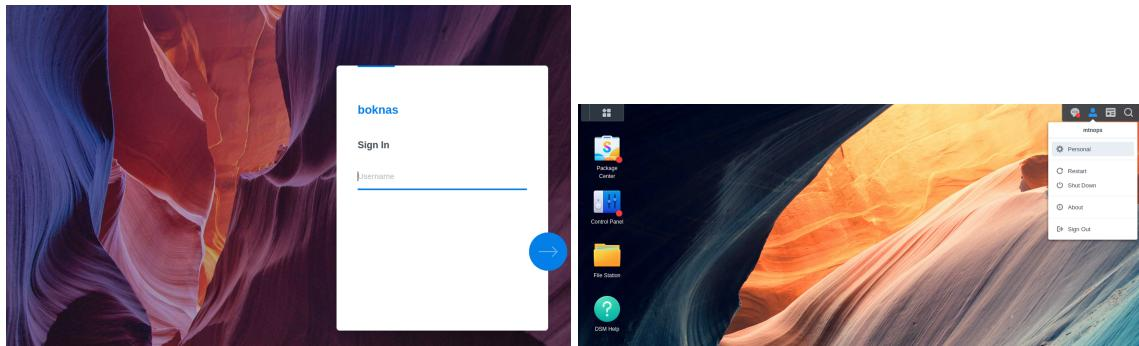

Figure 6: Shutting Down the NAS (**boknas**).
3. Navigate to <http://10.30.1.9:5000> ... the screen should appear looking like the LHS of Figure 6.
5. The screen should change to looking like the RHS of Figure 6.